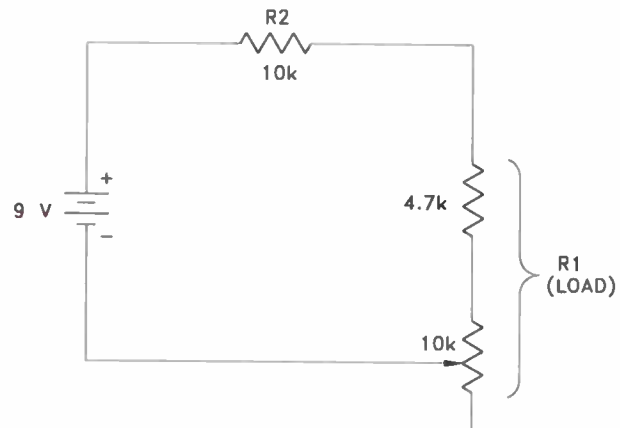

Figure 5-3. A schematic of the circuit for Step 2.
Step 3. Remove the 1k resistor as shown in Figure 5-3, on the next page. The load is still made up of the combination of the 4.7k resistor and part of the potentiometer. Adjust the potentiometer fully counterclockwise. Note the voltage reading and record it as the Voltage with Minimum Load for Step 3 in Table 5-1.